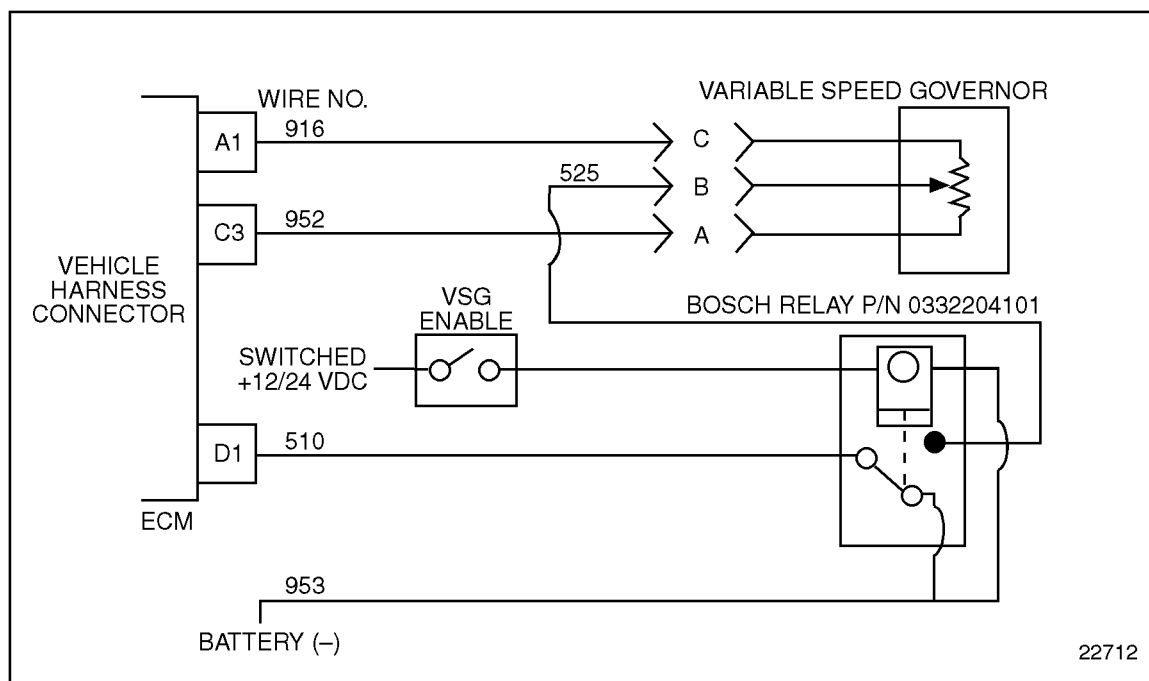

Figure 12-2 Typical Variable Speed Governor Circuit
6. Measure resistance between sockets C3 (#952) and D1 (#510) on the vehicle harness connector. See Figure 12-2.